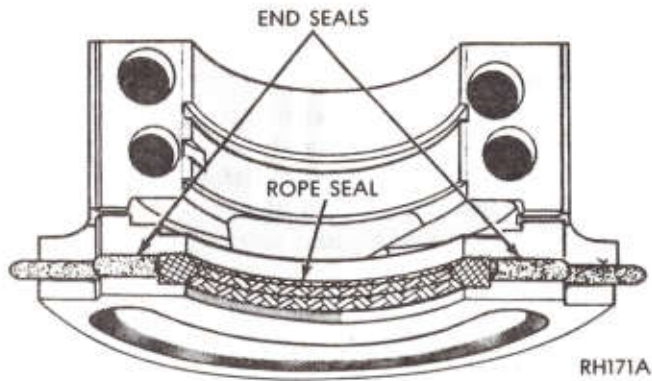

Fig. 50—Rear Main Bearing Cap (318 Engine)
(1) Install a new seal in bearing cap so that both ends protrude.
(2) Using Tool C-3511, tap seal down into position until tool is seated in bearing bore.
(3) Hold tool in this position and cut off the portion of the seal that extends above the cap on both sides.
(4) Install cap seals into slots in bearing cap (Fig. 50). If this is not done, oil leakage will occur. Lightly oil seals with engine oil.
(5) Assemble bearing cap to cylinder block. Install